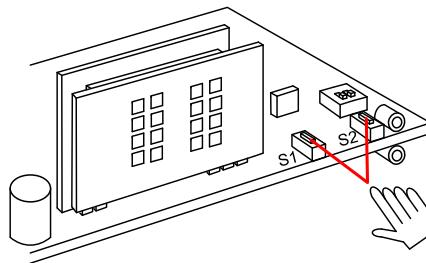

Figure 5
- 2. Press S1 or S2 button on the board inside the radar (*Fig. 5*);**